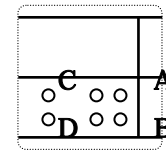

Figure 2: Master drive
- Figure 2 shows the master setting.